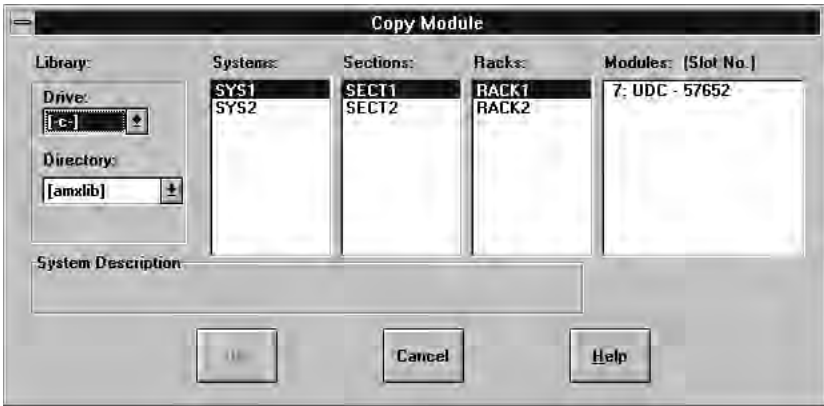

Figure 6.5 - Copy Module Dialog Box
- Step 2. Select Copy from the Configure menu. The Copy Module dialog box is displayed (see figure 6.5).